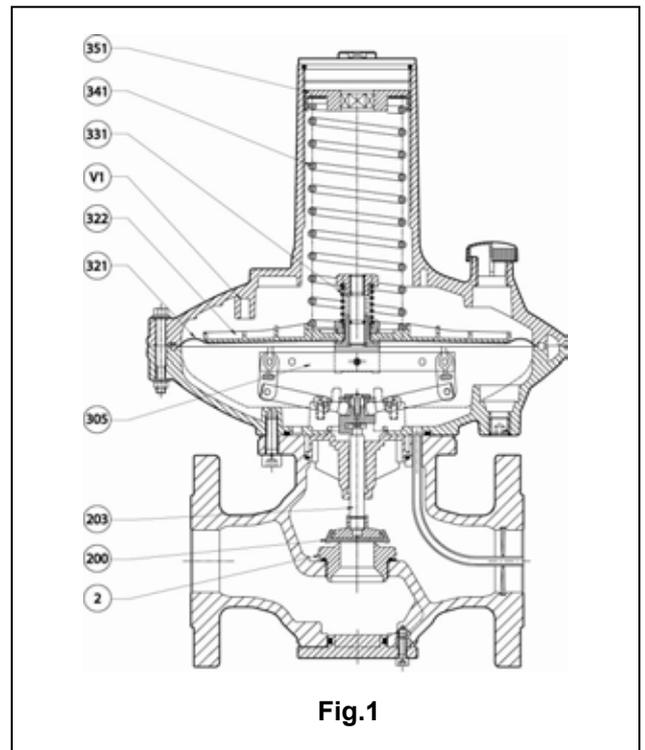

Fig.1
1.2 OPERATION OF THE PRESSURE REGULATOR DIVAL 700 (fig. 1)
In absence of pressure the obturator **200** is kept in open position from the hook of shaft **203** on the side of the levers **305** (fig. 1).